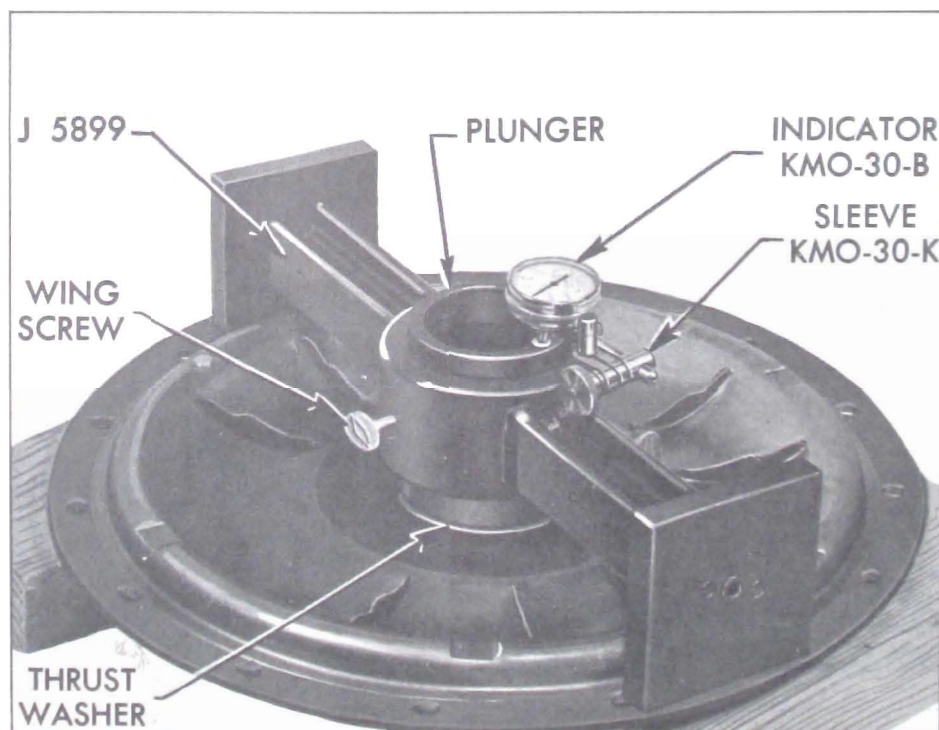

Figure 5-130—Gauge J-5899 on Pump Cover
6. Support the converter pump cover firmly on blocks with inner side up and place the bronze thrust washer in its recess. Remove Gauge J-5899 from pump, turn it over, and center it on the cover so that it rests squarely on the gasket surface. See Figure 5-130.
7. Mount Dial Indicator on the adjustable post of clearance gauge so that indicator button bears squarely against the upper end of clearance gauge plunger. Set dial at zero. See Figure 5-130.